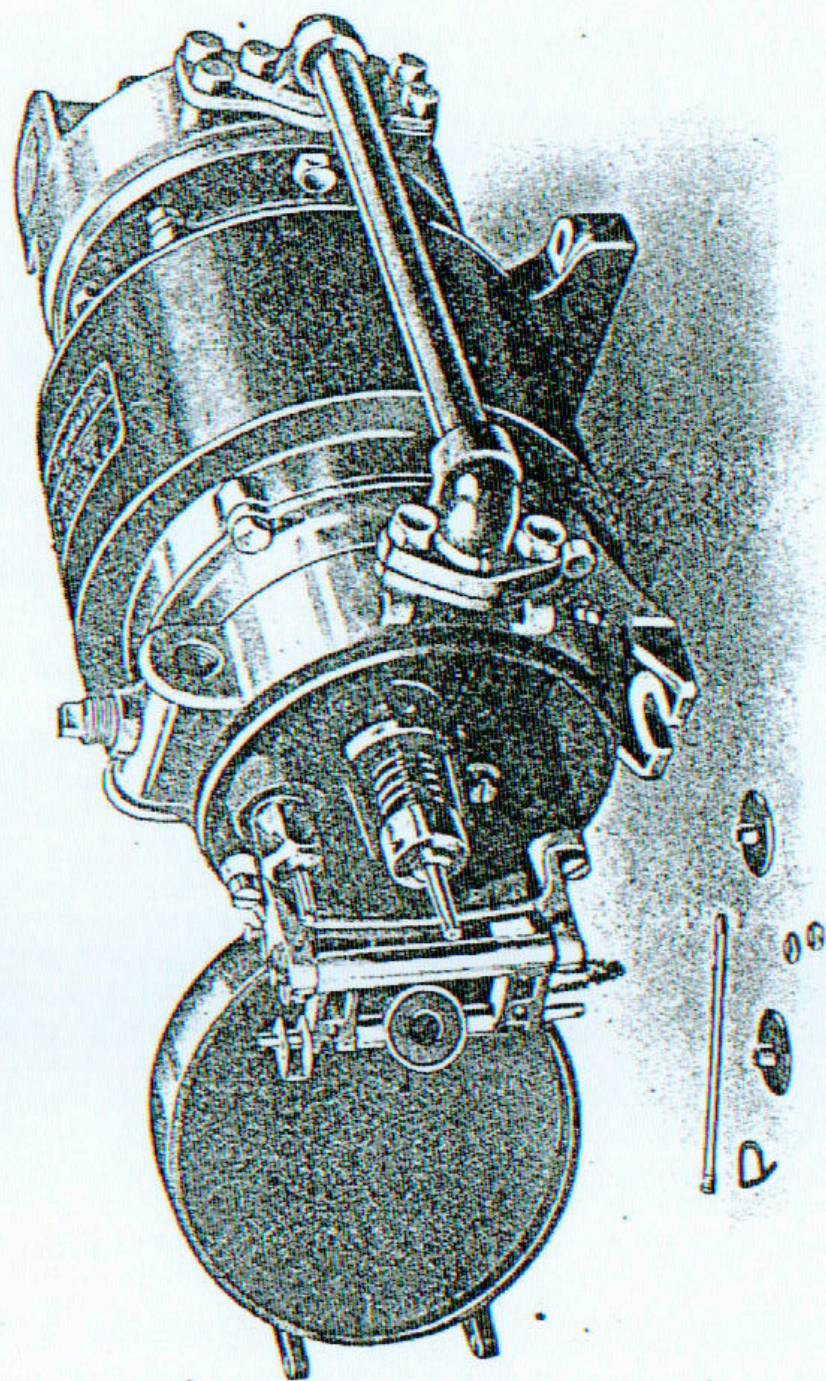

FIG. 1.
Remove spring pin and withdraw quadrant adjusting pin (45) releasing valve stem. Remove lock-nuts (27) and outer thrust plate (51) on governor stem (26) and swing back the rocker (43). The valve stem which is now accessible should be free to slide in or out without appreciable friction. (*See Fig. 1.*)